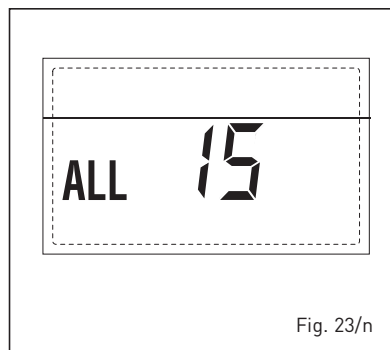

Fig. 23/n
**- SAFETY THERMOSTAT INTERVENTION FIRST MIXED ZONE "ALL 20" (fig. 23/p)**